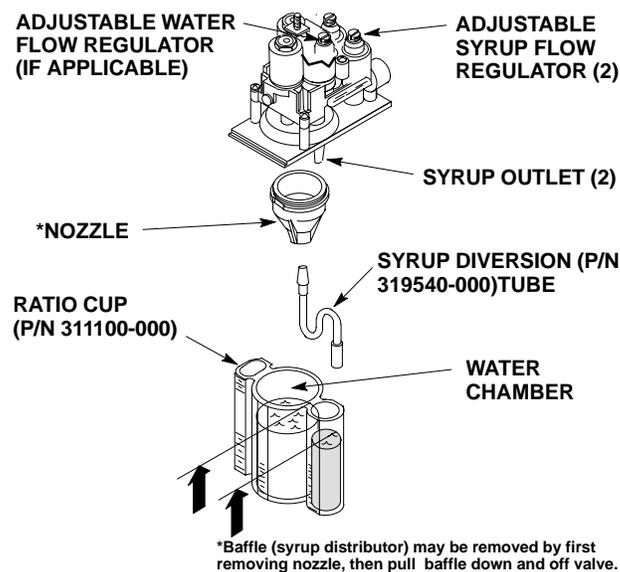

FIGURE 2. RATIO CUP AND SYRUP DIVERSION TUBE ASS'Y
8. Tape MOUNTING TEMPLATE, (item 1) in position over hole on front panel (see Figure 2) where SF-1 dispensing valve mounting block was removed.
(see Figure 2)